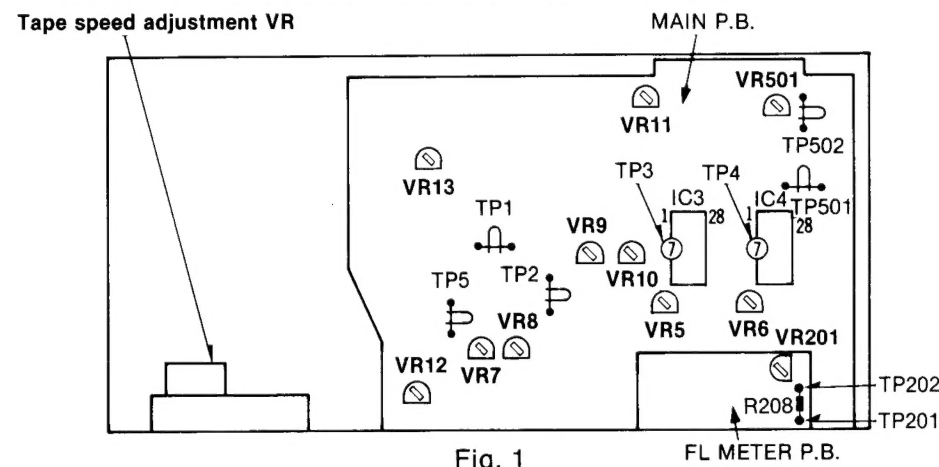

Fig. 1
- If measured value is not within the standard value, adjust it by using the tape speed adjustment VR shown in Fig. 1.
1. If the measured value is not within standard the adjust VR5 (L-CH) or VR6 (R-CH) (See fig. 1).
5. If the measured value is not within the standard value, adjust VR12 (See fig. 1).